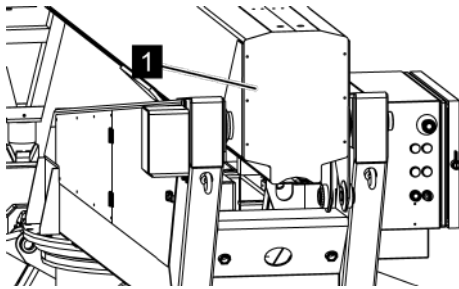

Fig. 145: Service flap
2. ➤ Unscrew the service flap (Fig. 145/1).
4. ➤ After cleaning, screw the service flap (Fig. 145/1) back on.